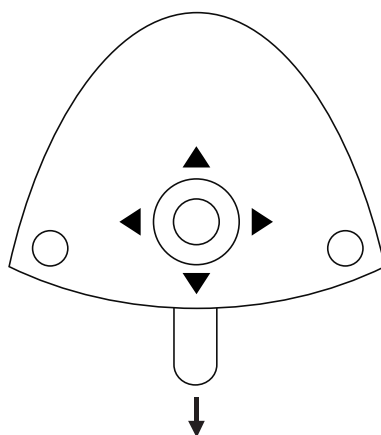

Figure 43 – Configuration using the foot control
2. Activate ▲ / ▼ or ↓ – see Figure 43 – to browse the parameter to change (see Table 5)
3. Activate ▲ / ▼ or ↓ – see Figure 43 – to browse the parameter to change (see Table 6)